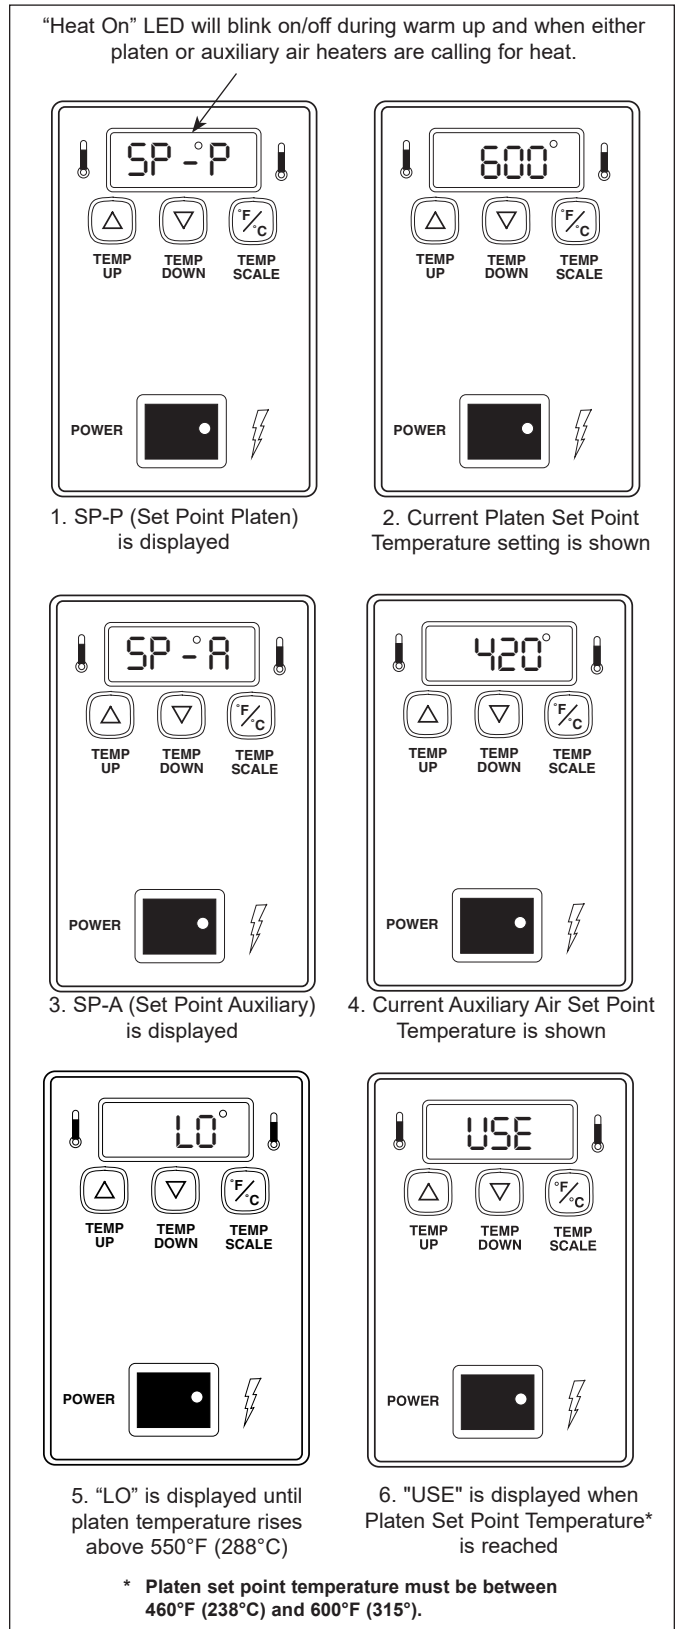

Figure 4. Temperature Power Up Sequence
1. Turn the Rocker Switch on and wait for the Temperature Display to finish the power up sequence (Figure 4).
1. Turn the Rocker Switch on and wait for Temperature Display to finish the power up sequence (Figure 4).